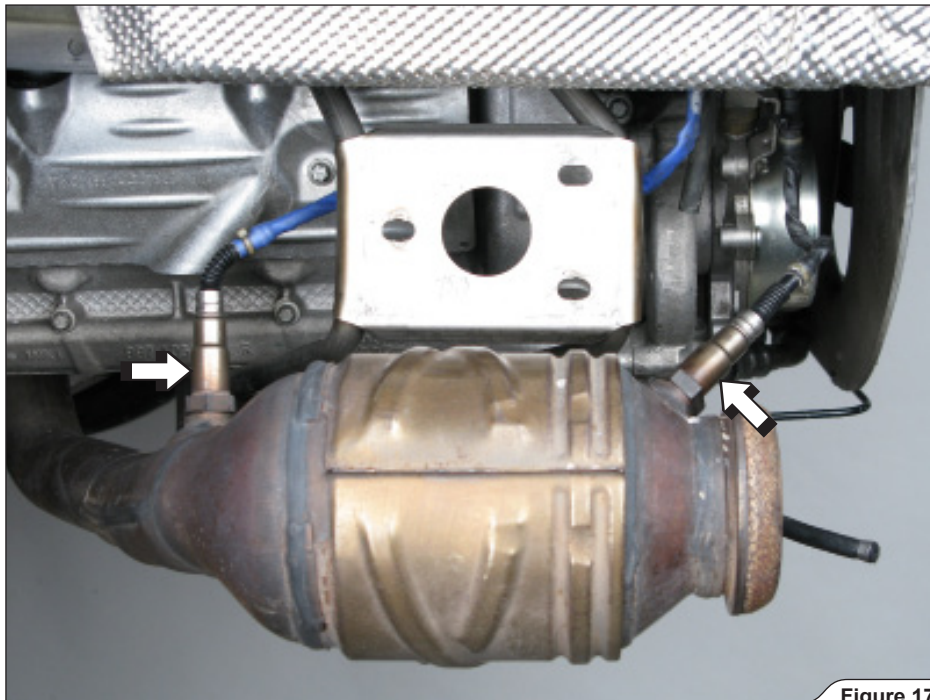
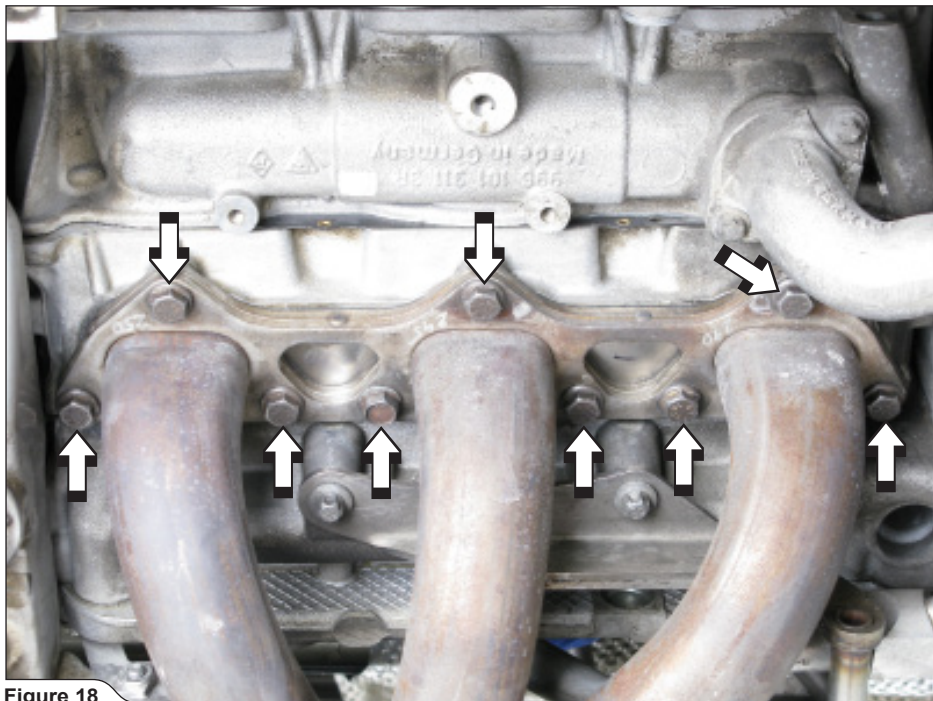

Figure 17
Figure 18
9. **For Evolution and Evolution-Race:** unscrew the lambda sensors (**Figure 17**) and marked bolts of the headers on both sides of the vehicle (**Figure 18**). Remove the headers.